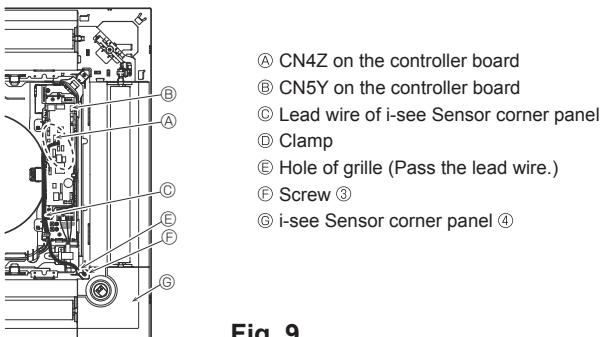
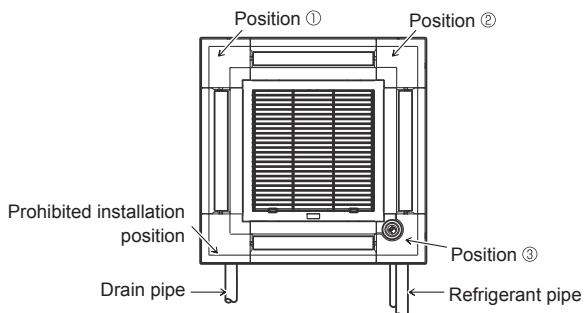

Fig. 9
Fig. 10
4.5. Installation of i-see Sensor corner panel (Fig. 9)
- Route the lead wire connector (white, 4 poles and white, 5 poles) of the i-see Sensor corner panel ④ from the side of the electrical box on the main unit and connect to the connector CN4Z and CN5Y on the controller board.
- The i-see Sensor corner panel should be fixed onto the grille ① with screw ③.
- If the position of the i-see Sensor was changed from default position (Position ③) to the other position, change the function settings. (Refer to Fig. 10)
- The i-see Sensor corner panel can not installed on the drain pipe side for the main unit. (Refer to Fig. 10)